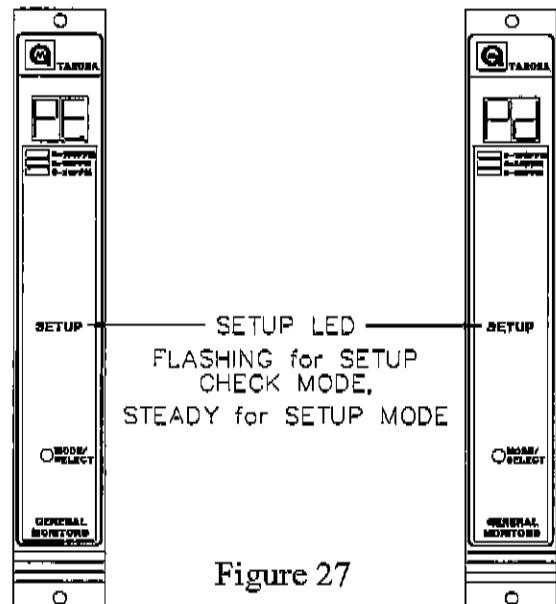

Figure 27
- Once the Card Test options have been selected, the user will either enable or disable the password option (figure 27). The display will indicate either **PE**, for enabled or **Pd**, for disabled. Password Disabled is the factory default for this selection.